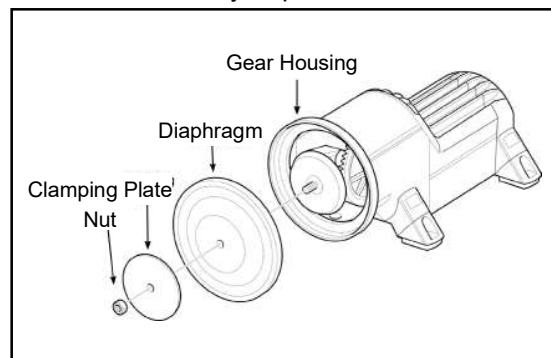

Figure 5 - Gulper Pump Components
- If diaphragm shows signs of wear, damage or cracks it should be replaced (using Service Kit AK1557). If the diaphragm needs replaced, undo the nut in the centre of the diaphragm and remove the diaphragm plate and diaphragm (Fig 5).